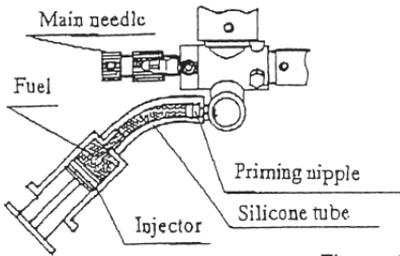

Figure 4
8. Close the choke valve (92), if applicable (FA-450).
10. Open the choke valve (92), if applicable (FA-450).
**NOTE:** The priming process for the FA-90R3 and FA-170R3 and FA-200R3 is described as follows: For priming, inject the approximate quantity of fuel (about 1-2cc) into the carburetor with a syringe, etc. as illustrated below in figure 4.